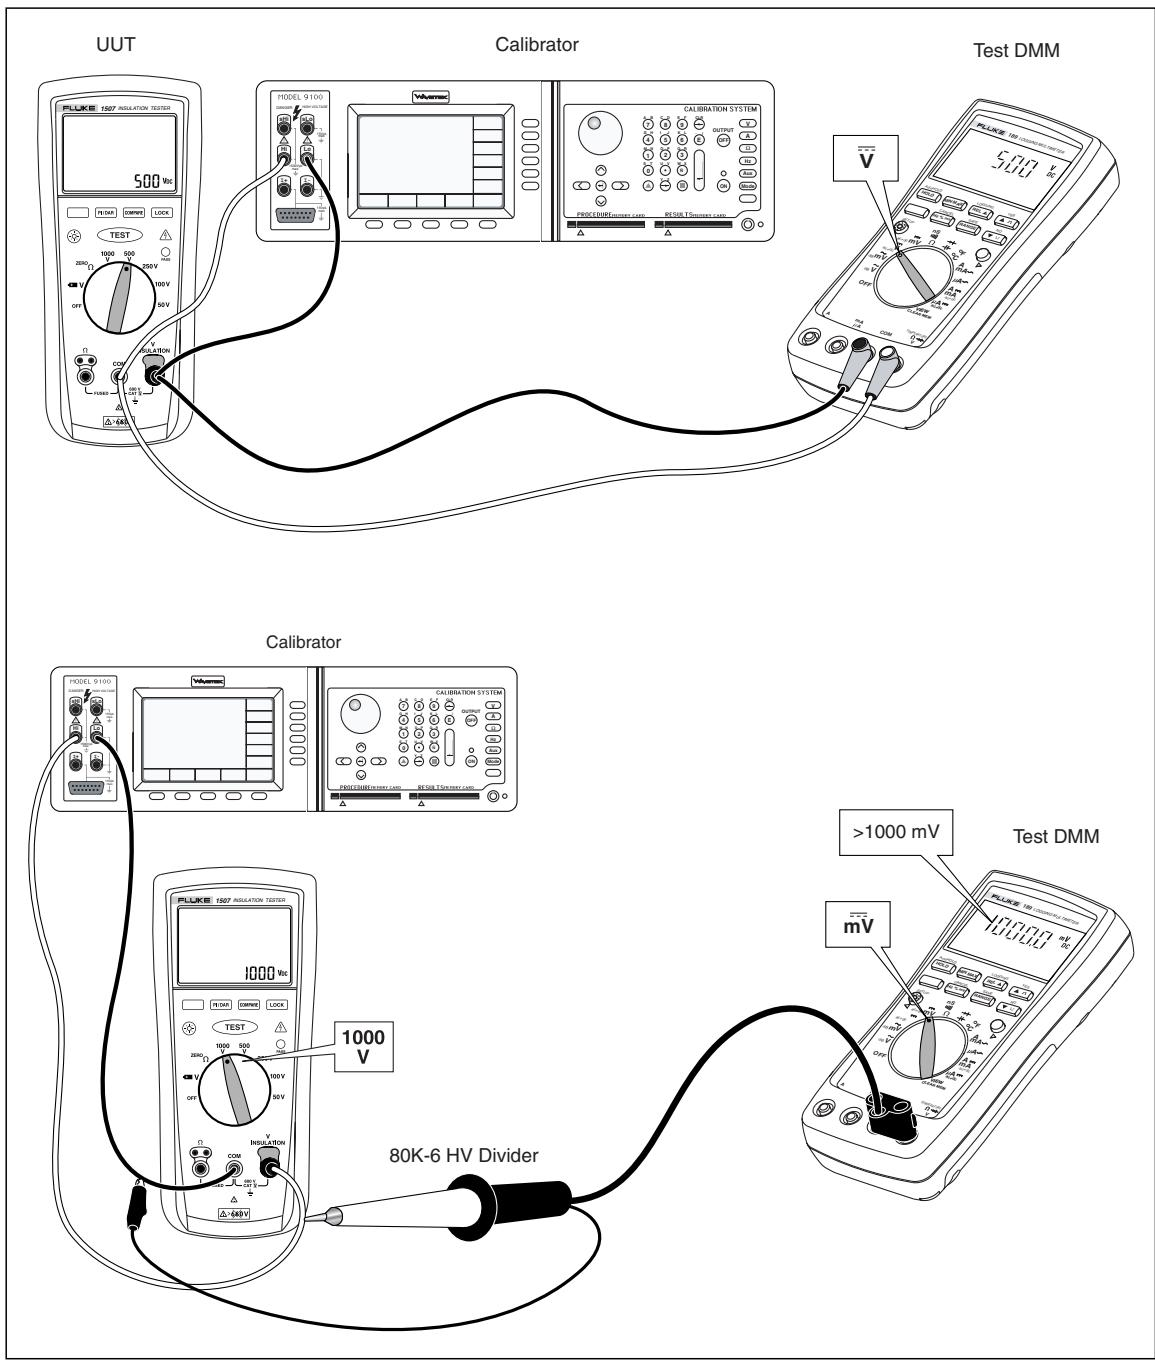

Figure 7. Source Voltage Accuracy Test, "R" Nominal
1. Connect the test DMM and calibrator in parallel to the UUT **INSULATION** and **COM** terminals. See Figure 7.